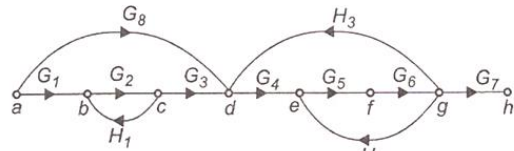

Fig. 3P-13
16. Reduce the signal flow graph of Fig. 3P-12 and hence determine $\frac{x_2}{x_1}$.